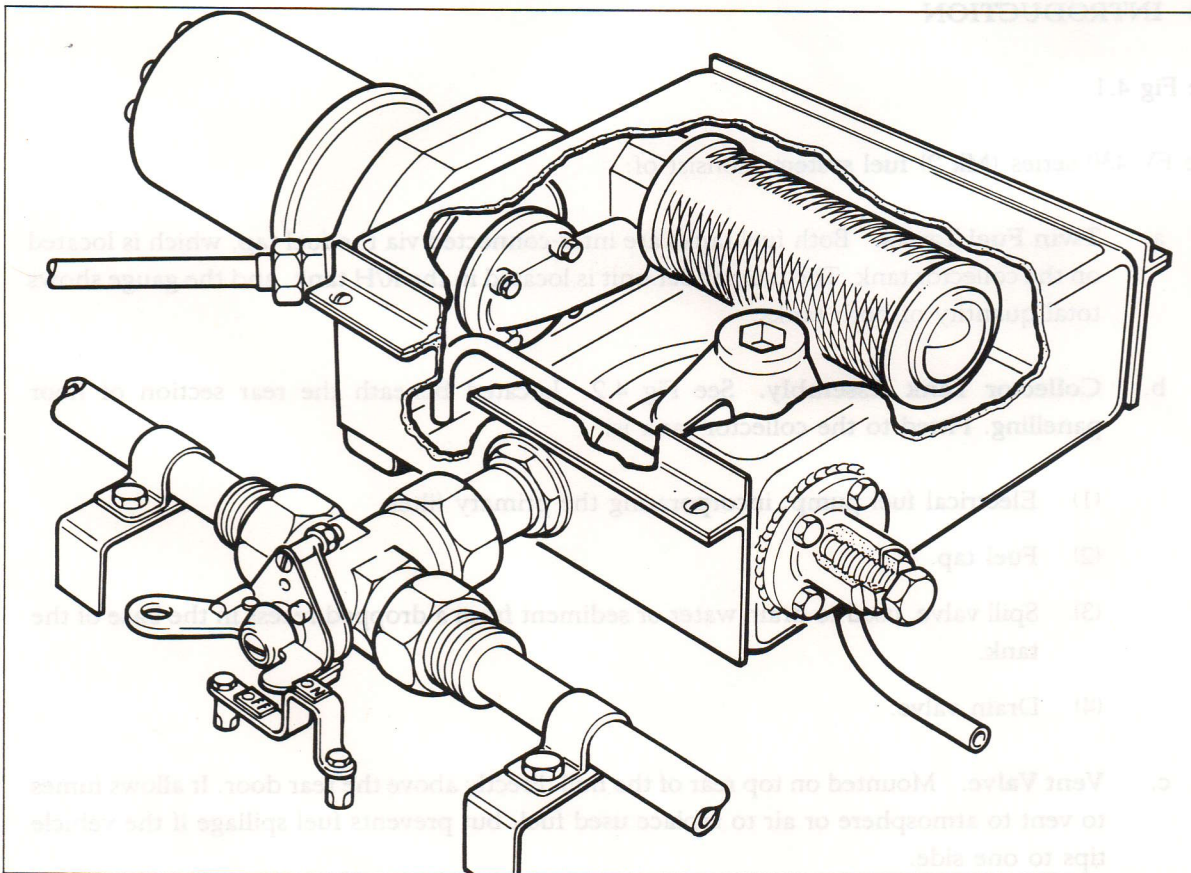

Fig 4.2 Collector Tank Assembly
- b. **Collector Tank Assembly.** See Fig 4.2. Located beneath the rear section of floor panelling. Fitted to the collector tank is:
- (1) Electrical fuel pump, incorporating the primary filter.
- (2) Fuel tap.
- (3) Spill valve, used to drain water or sediment from a dropped recess in the base of the tank.
- (4) Drain valve.